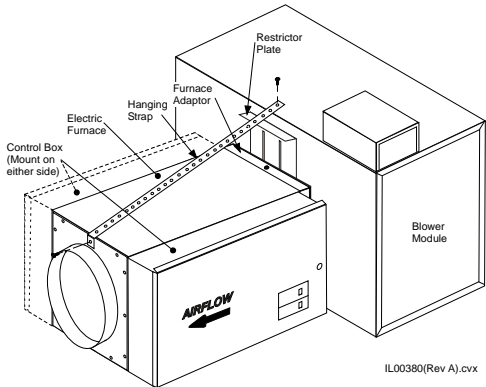

Figure 3. Hanging Strap Placement
2. Insert the furnace into the furnace adaptor and secure it using the (4) #8 x 3/4 modified Phillips head self drilling screws shipped with the electric furnace. Adjust the restrictor plate to the proper airflow (refer to *Bulletin 30-20*) then use #10 x 3/8" type AB sheet metal screws located inside the bulletin packet shipped with the blower module to secure the restrictor plate in place.
3. If the furnace is not supported from underneath the unit, use a hanging strap to support the furnace by attaching one side to the top of the air handler and the other to the end of the furnace as shown in figure 3.
For horizontal applications, mount the furnace with the control box on either side as shown in Figure 3. For vertical installations, mount the electrical furnace control box in any position. The circuit breaker can be repositioned for vertical installations, if needed, so that the switch is in the down position when turned off.